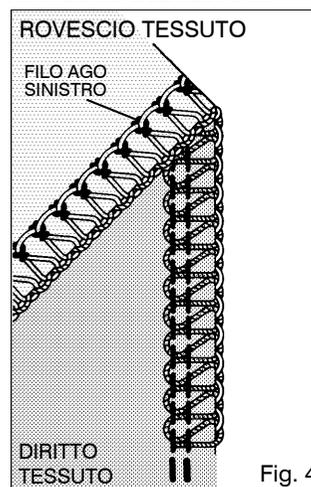

Fig. 4
Tenere l'ago non usato nell'apposito cuscinetto. Quando non si usa il convertitore inserirlo profondamente come illustrato in fig. 4.
Attach the two-thread convertor onto the upper looper as shown in Fig. 2, Fig. 3. When not using convertor, insert it deep and keep as illustrated in Fig. 4.
Loops may hang off the edge, when you sew with lightweight fabric using 3 threads (right needle only), and setting cutting width dial at 4 - 5 (Fig. 3). In such a case change the stitch finger (A) to (B) to get neat stitching (Fig. 4).